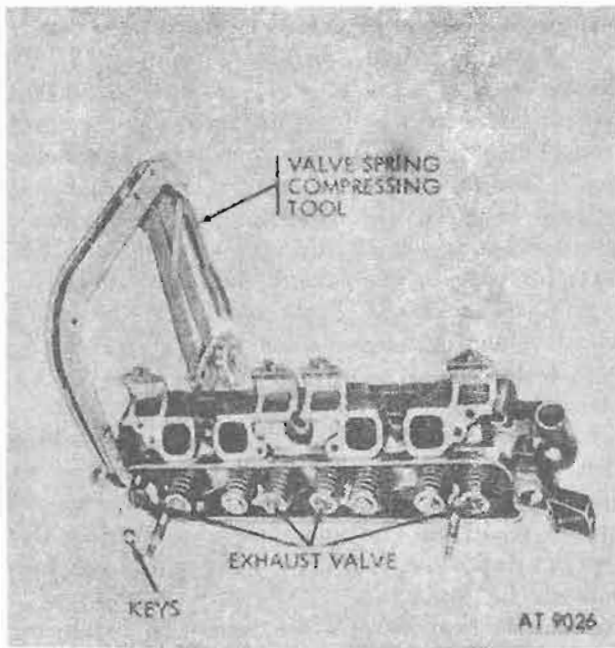

Figure 4-121. Exhaust valve spring retainer keys and valve stem cap—removal and installation.
a. *Remove Exhaust Valves* (fig. 4-121).
(4) *Exhaust valve springs, spring seats, locks and caps.* Install valve spring over valve stem with close-wound end of coil toward cylinder block. Install spring retainer. Use valve spring compressor to compress spring and install keys on the valve from which it was removed, (1) above, then remove tool. Install valve stem caps on the valve from which they were removed and tape in place on valve to insure correct location and prevent loss when handling cylinder head prior to installation. Refer to figure 4-121.